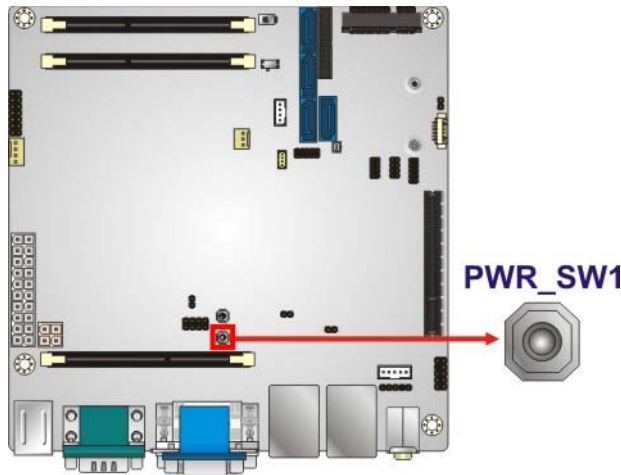

Figure 3-18: On-board Power Button Location
- CN Location:** See **Figure 3-18**